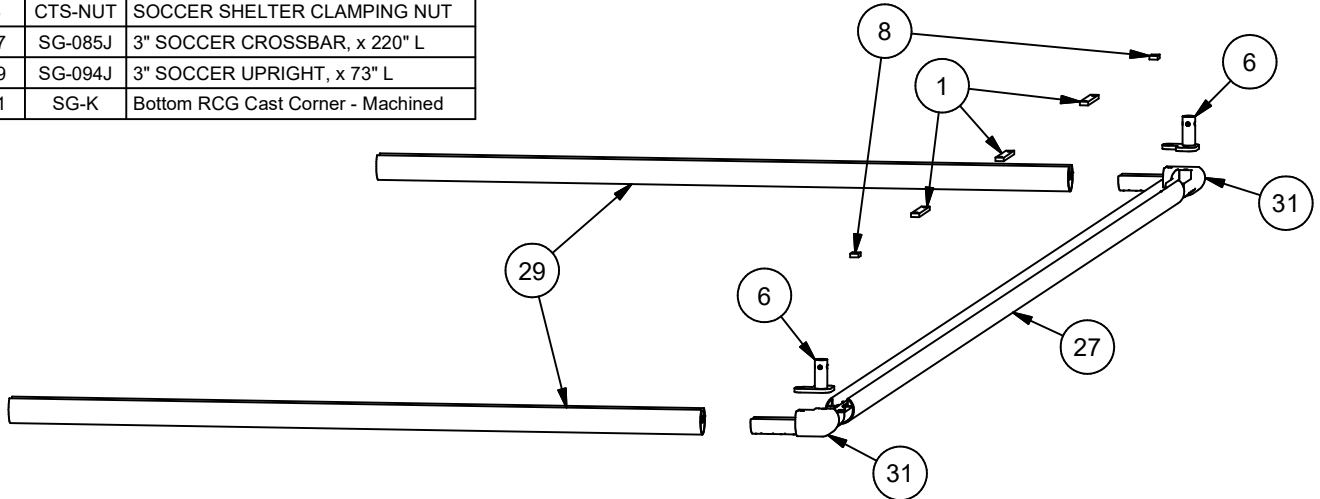

FIGURE A-1
1. Lay out the two uprights, one crossbar, two corner hubs, two 1.5" nut bars, three 7" nut bars, and two end corner fittings as per Figure A-1.